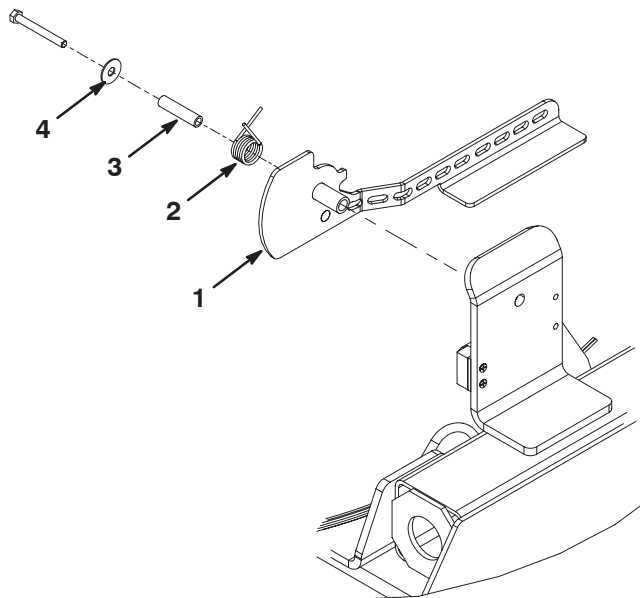

Figure 5
9. Mount the switch arm assembly, torsion spring, cam spacer, washer and the upper left corner of the switch plate to the frame mounting bracket with a 5/16 x 2-3/4 inch screw (Fig. 5).